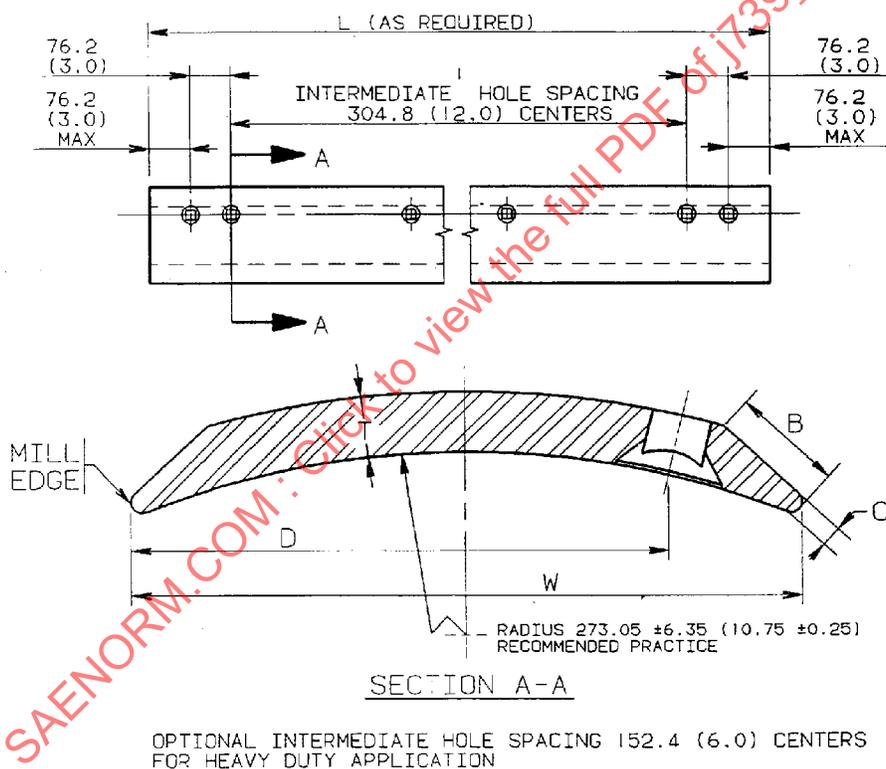

FIGURE 1—
**(R) CUTTING EDGE—CURVED GRADER**
1. **Scope**—This SAE Standard is intended for curved cutting edge sections used on graders as defined in SAE J870 and J1057. (See Figure 1 and Table 1.) Hole conformation is further defined in SAE J740 and J1580.